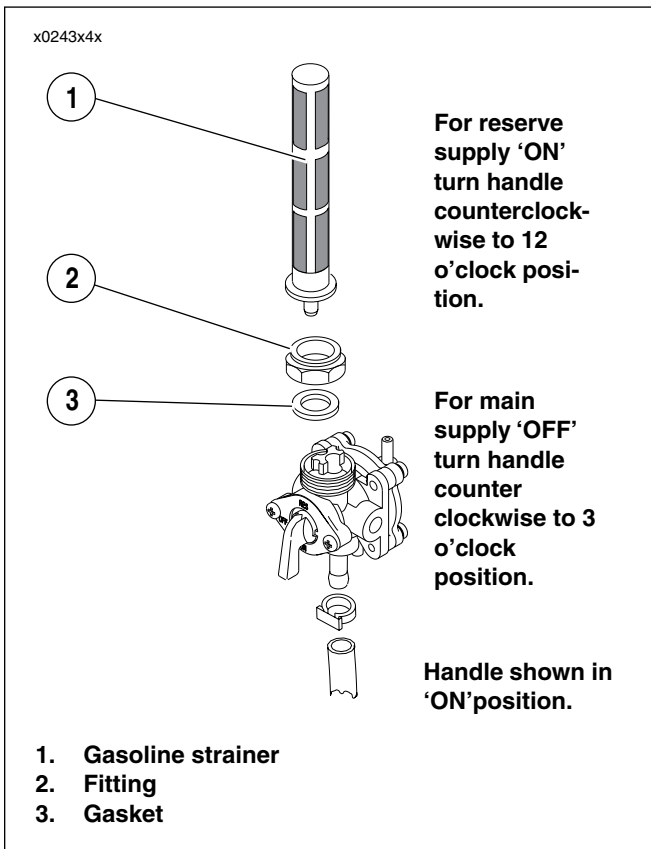

Figure 4-9. Fuel Supply Valve
See Figure 4-9. The fuel supply valve is located on the left side, below the fuel tank. The gasoline supply to the carburetor is shut off when the handle is in the horizontal position. For gasoline main supply, turn the handle clockwise until it stops in the vertical position. For gasoline reserve supply, turn the handle counterclockwise until it stops in the vertical position. Valve should always be in the OFF position when engine is not running.
1. See Figure 4-9. Turn the fuel supply valve to OFF.
1. See Figure 4-9. Clean or replace filter strainer (located inside fuel tank above fuel supply valve).
1. See Figure 4-9. Coat supply valve threads with Loctite Pipe Sealant with Teflon and securely install fitting onto fuel tank.